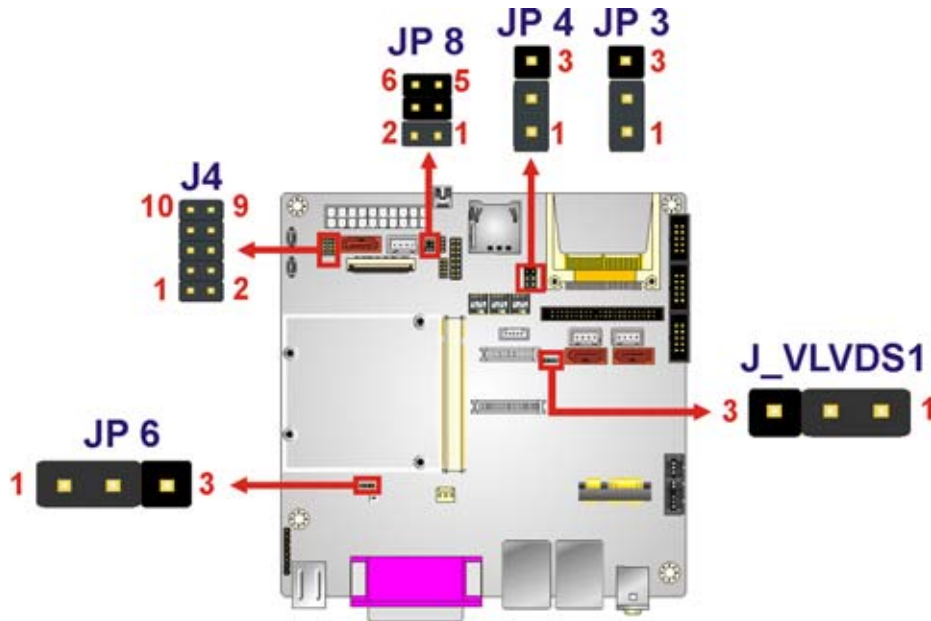

Figure 4–29: Jumpers
- Jumper Location:** See Figure 4–29